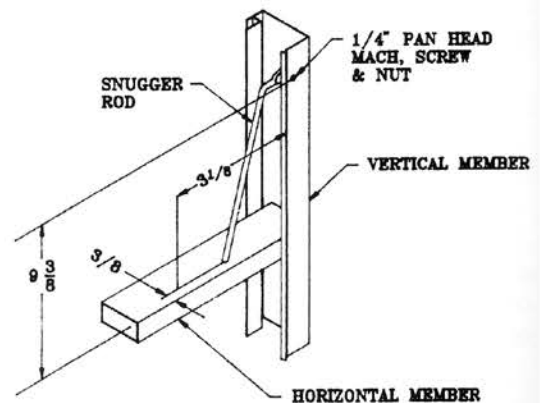

Figure 12
Select a horizontal door member that is at a convenient height and drill one (1)  $\frac{17}{32}$ " diameter hole as shown. Next drill one (1)  $\frac{9}{32}$ " diameter hole in the vertical door member. Figure 12.